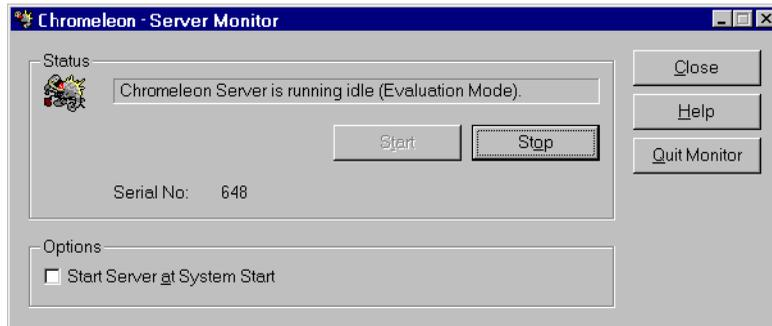

Figure B-5. Server Evaluation Mode
- If Chromeleon was not pre-installed, the Server Monitor status displays “Chromeleon Server is running idle (Evaluation Mode).” (see Figure B-5) If this is the case, go on to Step 3.